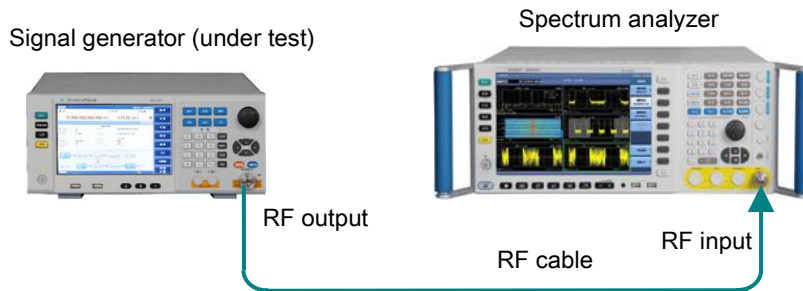

Fig. 8.4 Diagram of connection via spectrum analyzer
- 1) Connect the equipment as per Fig. 8.4, start it up and warm it up for at least 30 min.
- 1) Connect equipment as shown in Figure 8.4, start up the instrument, and warm it up for at least 30 min.